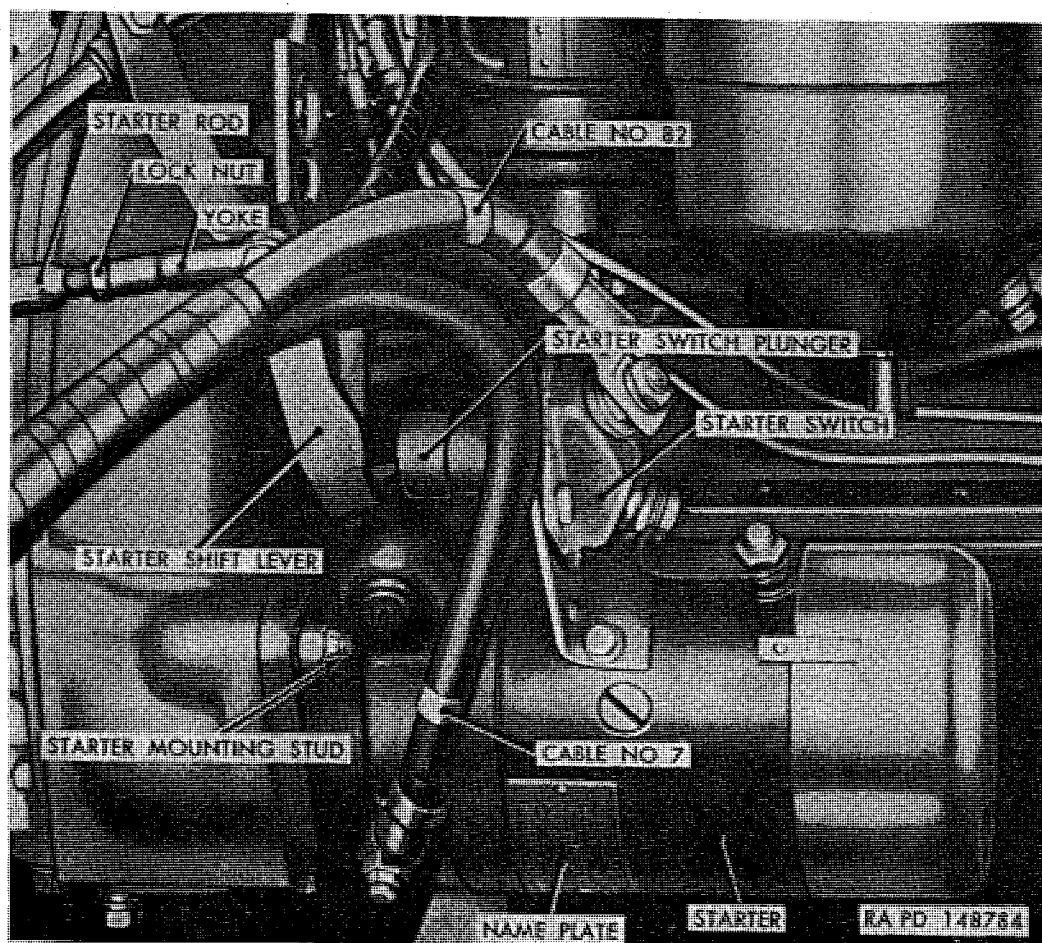

Figure 145. Starter installed on engine.
b. Starter. Starter is a four-pole, four-brush unit with three field coils connected in series and one in shunt. The series field windings and insulated brushes are grounded to commutator end head through a capacitor (condenser). Starter is equipped with overrunning clutch-type drive, and is mounted on right side of engine flywheel housing as shown in figure 145. Starter switch is mounted on top of starter field frame; starter switch terminal is connected to field terminal by a strap-type connector. Terminals and connector are coated with waterproofing material after assembly. Commutator end of starter is completely inclosed by a cover installed over end of field frame and held in place by two retaining clips. An O-ring gasket installed between cover and field frame seals out moisture. Sealing of shift lever opening in drive end housing is accomplished by an O-ring packing gasket, shift lever bearing nut, and gasket.
- (2) Disconnect starter cable No. 82 (fig. 145) from starter switch upper terminal.
- (3) Disconnect ground cable No. 7 from stud on starter drive end housing.
- (1) Place new gasket over starter mounting studs (fig. 145). Position starter on flywheel housing with holes in drive end
- (2) Connect ground cable No. 7 to stud on starter drive and housing. Connect starter cable No. 82 (fig. 145) to starter switch terminal. Tighten terminal nuts; then coat both cable ends and terminals with waterproofing material.